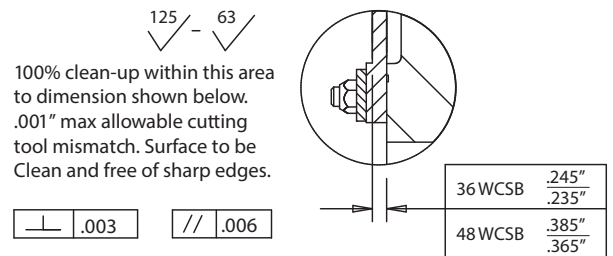

Figure 15
- 4.5.17 Machining of the wear surfaces is required for the 36WCSB and 48WCSB tensioner/brake assemblies after replacement of the wear plates or the adjoining friction material. See Figure 15 for machining specifications. Clean all wear surfaces after machining to remove any residual contaminates.